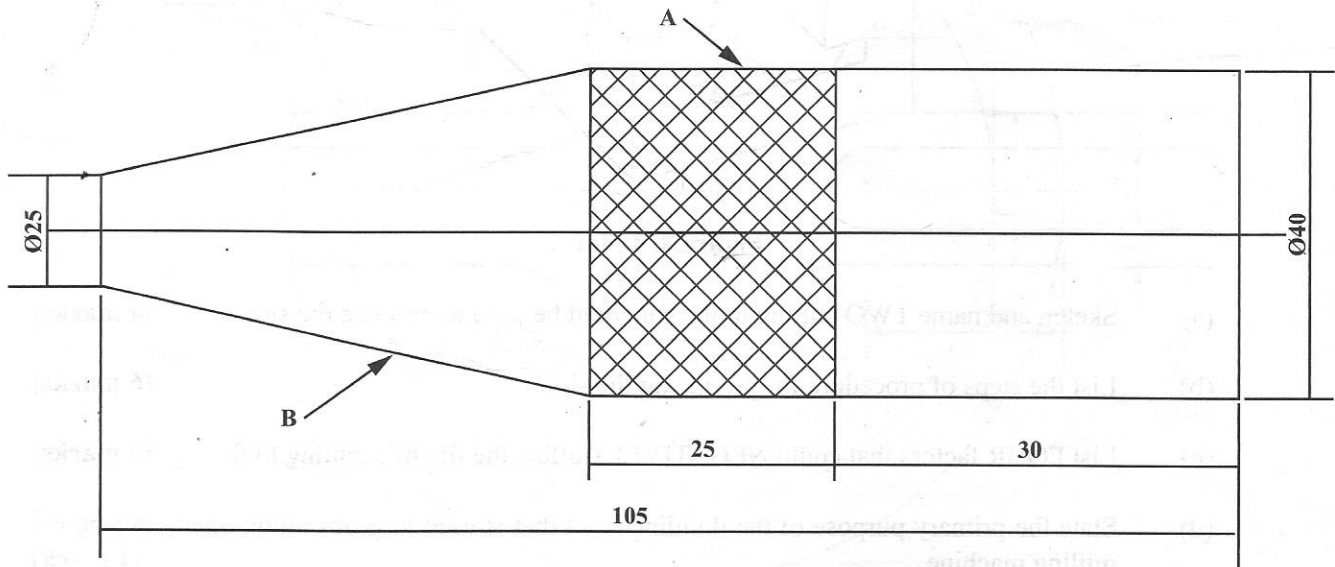

Figure 2. Test plug
2. The test plug in Figure 2 is to be knurled and tapered on the centre lathe from a piece of material 40 mm in diameter.